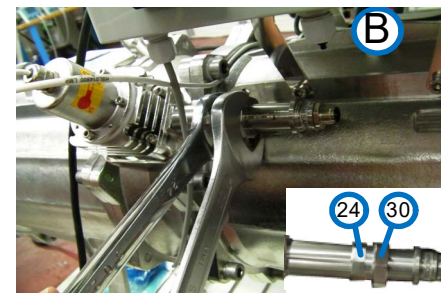

Figure 10-31: Loosening nuts B (Generic View)
- Step 2.** Grip the Sensor casing with wrenches # 24 and # 30, as shown in view B, Figure 10-31. The inset shows the wrench #24 in the left hand gripping the casing's left band and wrench #30 in the right hand gripping the casing's large nut on the right.